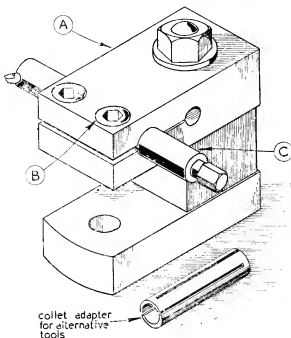

Fig. 1
(10) With the V-way still in position, the gib-screws should now be tightened so that the former cannot be made to move. If the previous work has been completely accurate, the lower surfaces of the V-way and the two side-pieces should all lie in one plane. Small errors, however, may be detected when the assembly is checked on the surface plate and these should be corrected by careful scraping.
(11) The V-way can now be removed and assembled to the base, using the two rectangular holes as a general guide to alignment. When this has been done, it will be found that the top plate can be made to slide on to the completed base and a five-face fit obtained, as shown in Fig. 1. The slide may now be fairly stiff, even with the gib-screws slackened off, and it will be permissible to ease it off later by applying a little oil and good quality metal polish, and working it back and forth by hand.
This interchangeable turret is illustrated in Fig. 1, and it will
arrangement drawing (Fig. 1). Some may, however, prefer to fit a commercial pattern boring-bar, such as the small Nulok tool which has a bar $\frac{5}{16}$ in. in diameter; in this event, the turret should be bored to this size and this will also permit of using the smaller Eclipse solid tools.